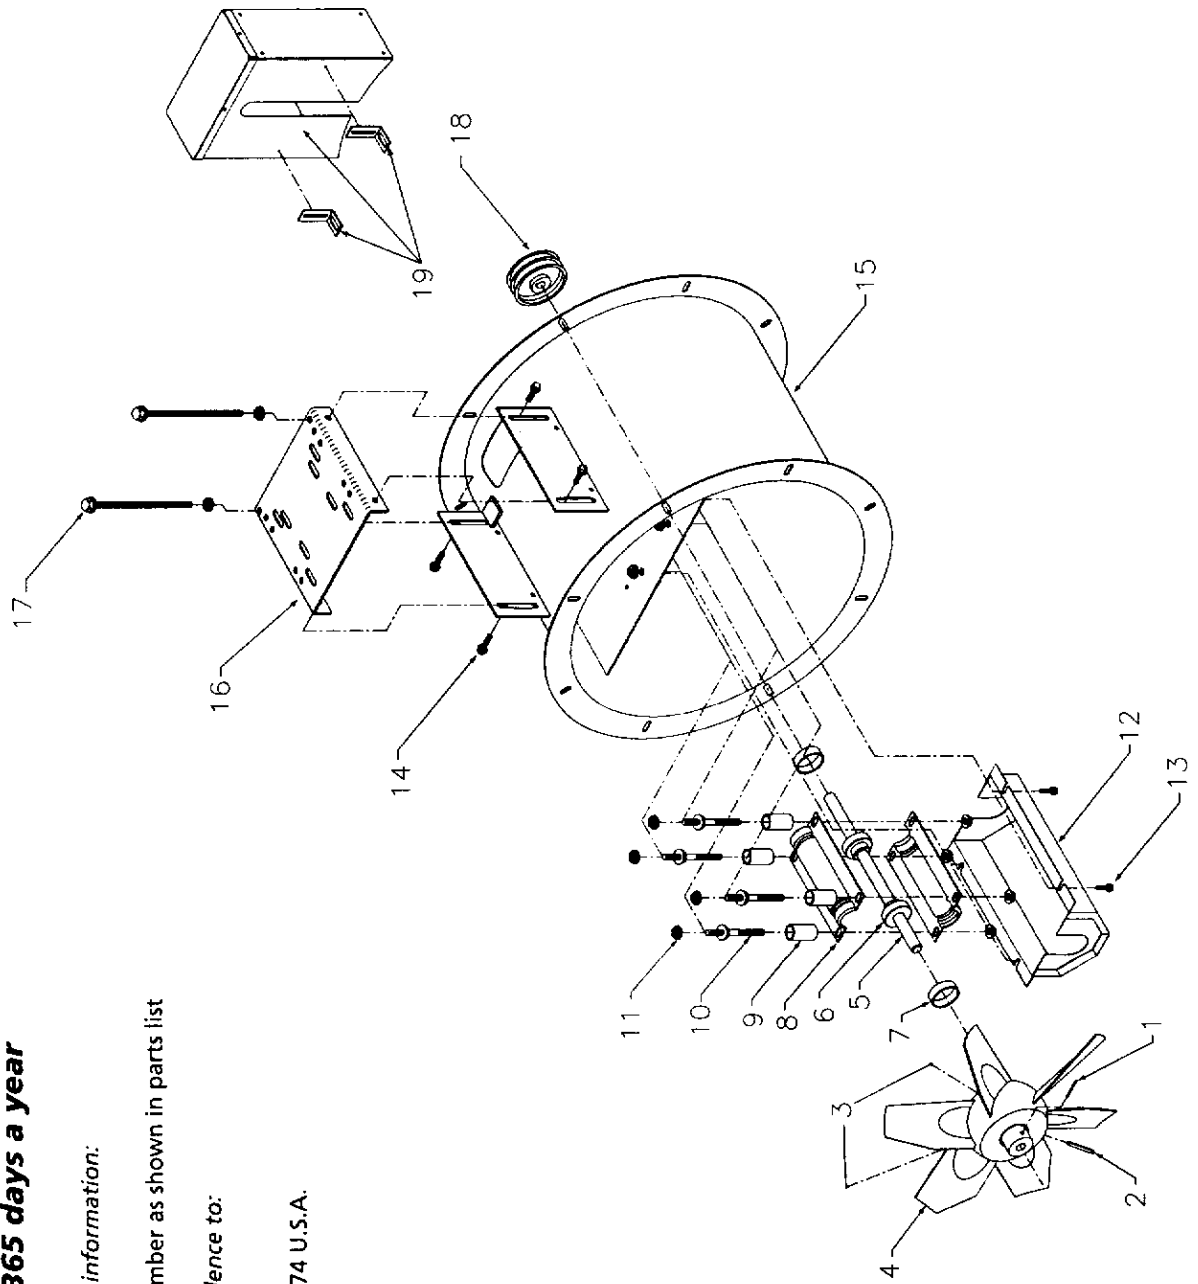

Figure 5
- To install belts on fan shaft pulley, first remove bearing cover (see Figure 5, Ref. No. 12) to gain access to belt tunnel. Install belts loosely over fan and motor pulleys.
- Assemble drive guard (see Figure 5, Ref. No. 19). Drive guard is secured to the motor base through the support brackets with jackscrew and jackscrew nut (Ref. No. 17). The drive guard end is attached to the housing flange with the bolt, flatwasher, and nut provided.